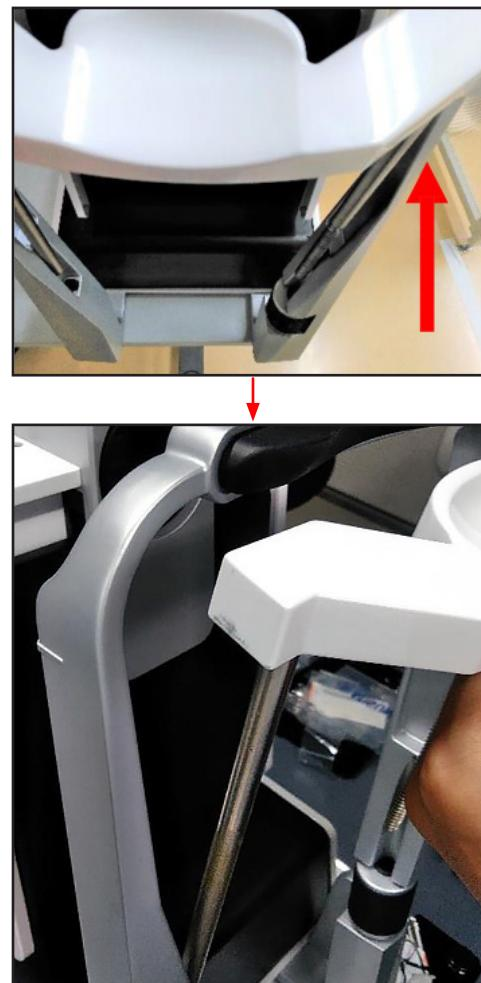

Figure 3-10 Chin Rest Removal
- 5.2 Lift the chin rest assembly up and away from the console as shown in **Figure 3-10**.